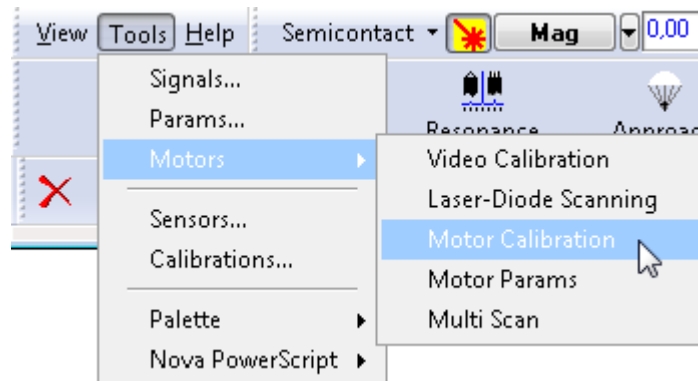
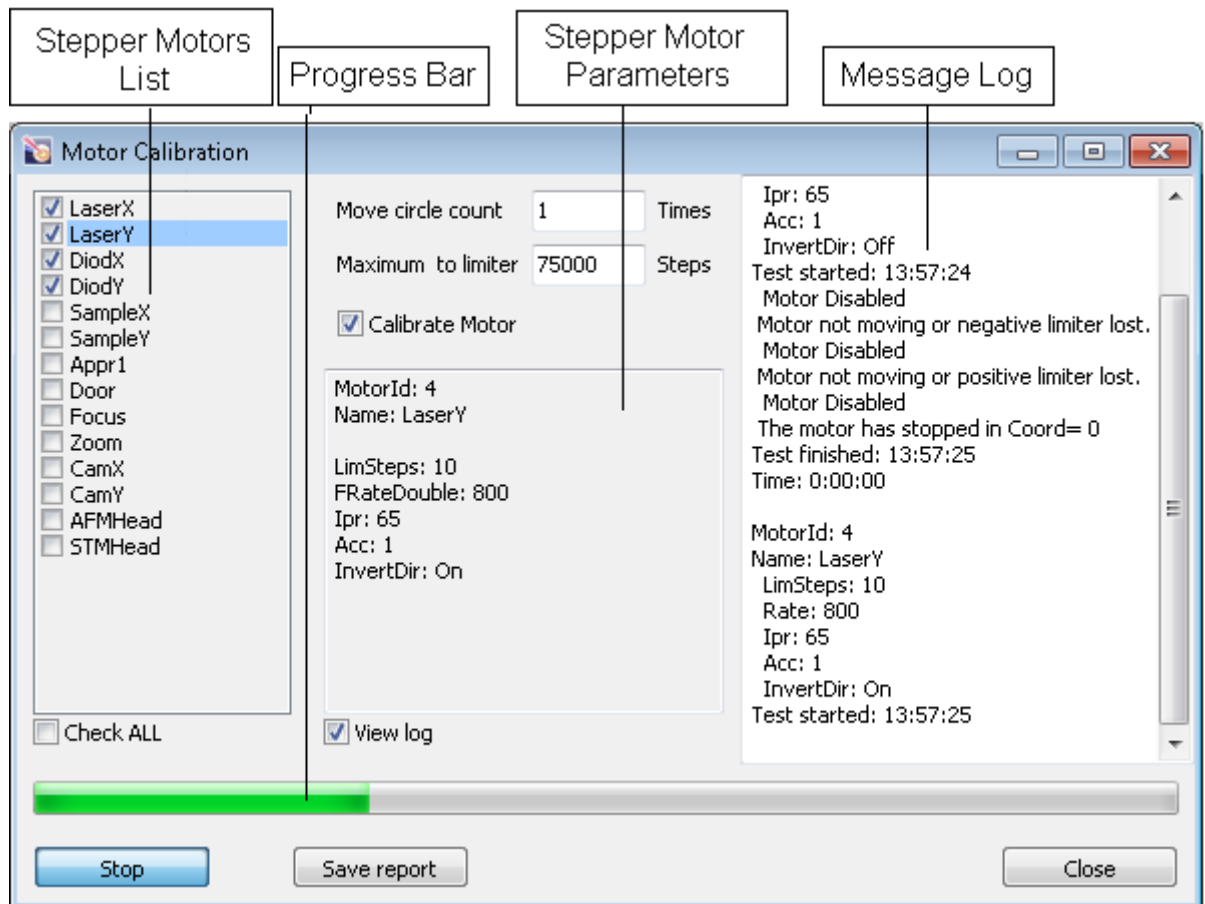

Fig. 6-1. Main Menu
Fig. 6-2. Motor Calibration window
1. Select the **Tools** → **Motors** → **Motor Calibration** Main Menu command (Fig. 6-1). This will open the **Motor Calibration** window (Fig. 6-2) to control stepper motors for calibration.
2. In the left part of the **Motor Calibration** window, mark stepper motors to be calibrated (Fig. 6-2).
3. Select the **Calibrate Motor** option and click the **Run** button. This will start the procedure on calibrating the stepper Motors, and the **Run** button will change its caption to **Stop**. The Message log of the **Motors Calibration** window will provide the following information on the motor under calibration: motor's ID, time of starting calibration, time of finishing calibration, and the total time of calibration. The indicator at the bottom of the **Motors Calibration** window will display percentage of progress of the calibrating procedure (Fig. 6-2). Calibration of all stepper motors takes about 20 minutes in total.